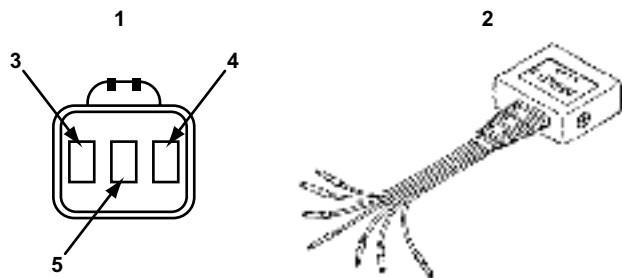

Figure 7-10 1992–95 1.3L and 1995 1.0L Metro connector and adapter
- Connect the MULTI-1 adapter to the 3-pin connector (Figure 7-10) under the left side of the dashboard.